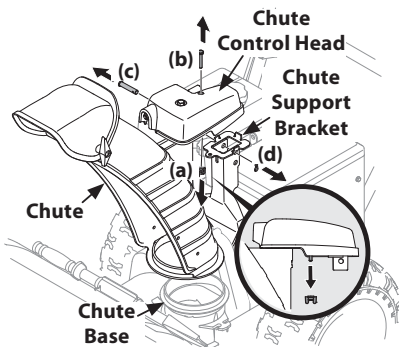

Figure 2-19
1. Remove wing nut (a) and hex screw (b) from chute control head and clevis pin (c) and cotter pin (d) from chute support bracket. Position chute assembly (forward-facing) over chute base. See Figure 2-19.